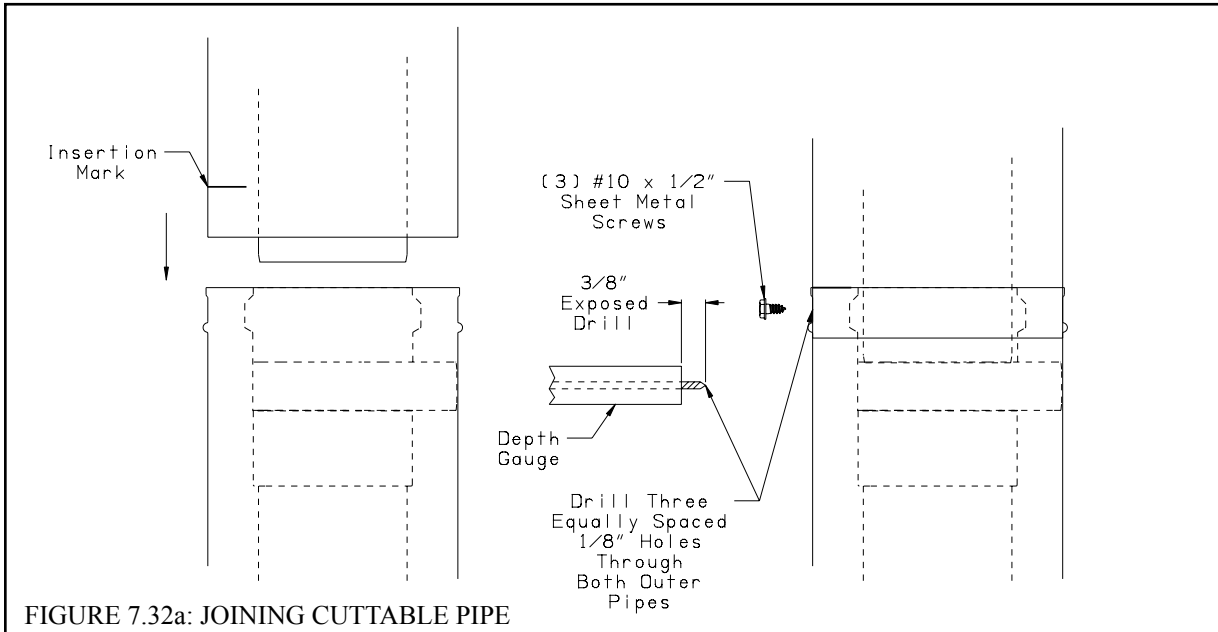

FIGURE 7.32a: JOINING CUTTABLE PIPE
- c) The male end of cuttable fittings must be held to the collar with three #10 x 1/2" sheet metal screws. Drill a 1/8 hole through both outer pipes to start this screw. **Use a drill stop or other means to ensure that the drill bit does not penetrate more than 3/8" into the outer pipe. Do not use a sheet metal screw longer than 1/2"** (Figure 7.32a).